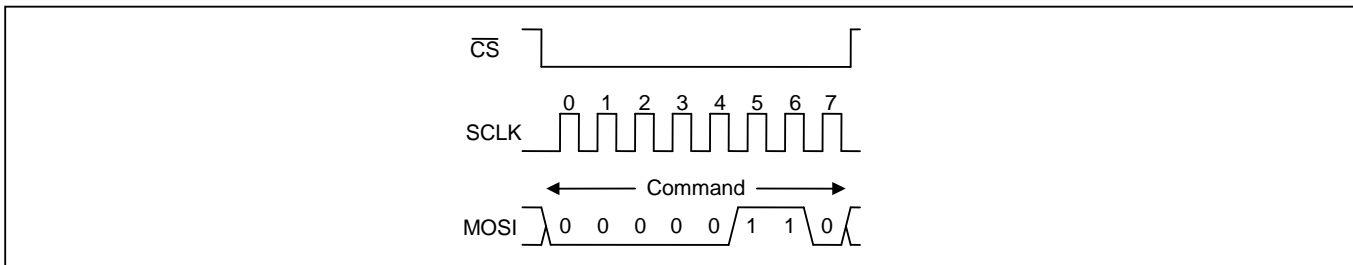
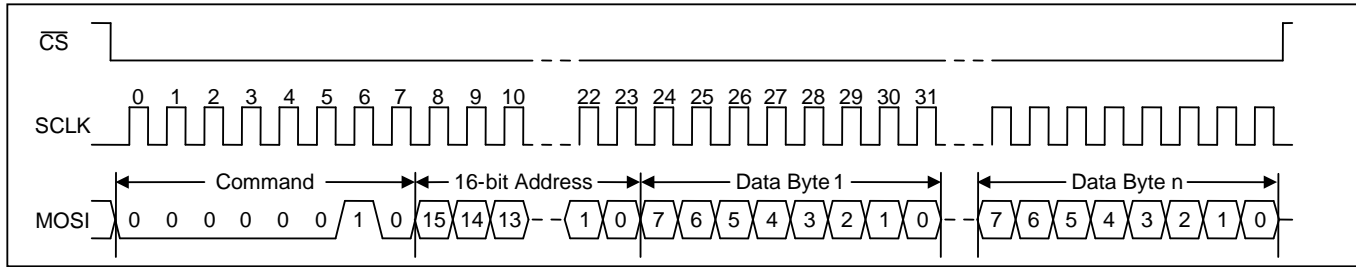

Figure 8 - SPI Write Enable Transaction Functional Timing (ZL30251 Only)
Figure 9 - SPI Write Transaction Functional Timing
**Register Write Transactions.** The device registers are accessible when **EESEL**=0. After driving CSN low, the bus master transmits the write command followed by the 16-bit register address followed by the first data byte to be written. The device receives the first data byte on MOSI, writes it to the specified register, increments its internal address register, and prepares to receive the next data byte. If the master continues to transmit, the device continues to write the data received and increment its address counter. The write transaction is completed when the bus master drives CSN high. See Figure 9.
its page buffer. The device then receives the first data byte on MOSI, writes it to its page buffer, increments its internal address register, and prepares to receive the next data byte. If the master continues to transmit, the device continues to write the data received to its page buffer and continues to increment its address counter. The address counter rolls over at the 32-byte page boundary (i.e. when the five least-significant address bits are 11111). When the bus master drives CSN high, the device transfers the data in the page buffer to the appropriate page in the EEPROM memory. See Figure 8 and Figure 9.